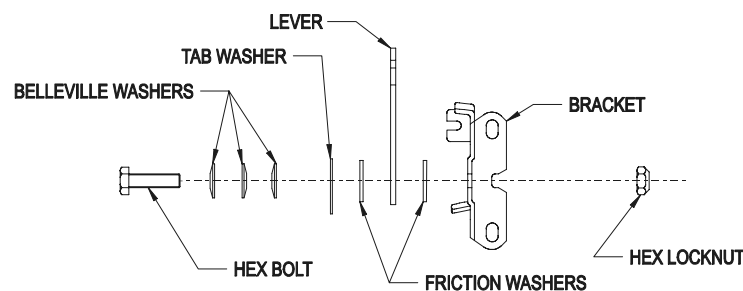

FIGURE 9
- b) Tension in throttle lever can be adjusted by adjusting the tightness of the lever pivot bolt, which is located under the console. See Figure 9.